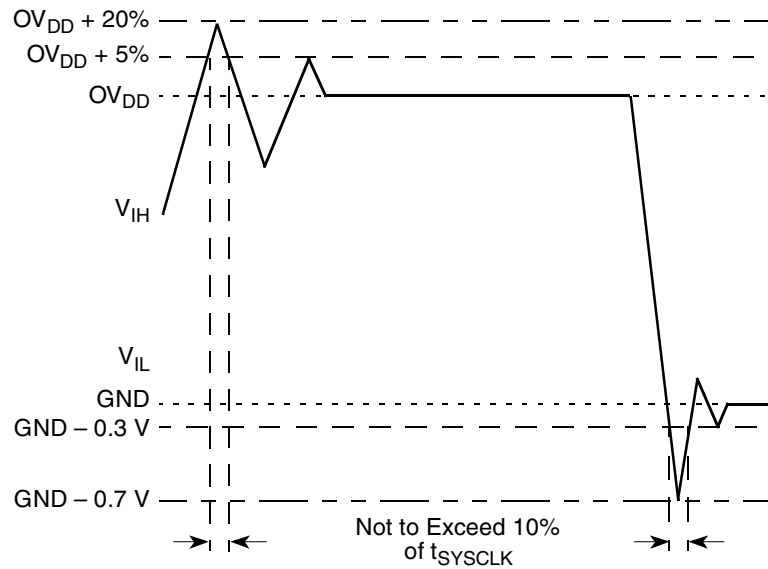

Figure 2. Overshoot/Undershoot Voltage
4. **Caution:**  $V_{in}$  must not exceed  $OV_{DD}$  by more than 0.3 V at any time including during power-on reset except as allowed by the overshoot specifications.  $V_{in}$  may overshoot/undershoot to a voltage and for a maximum duration as shown in Figure 2.
Figure 2 shows the overshoot and undershoot voltage on the MPC7448.